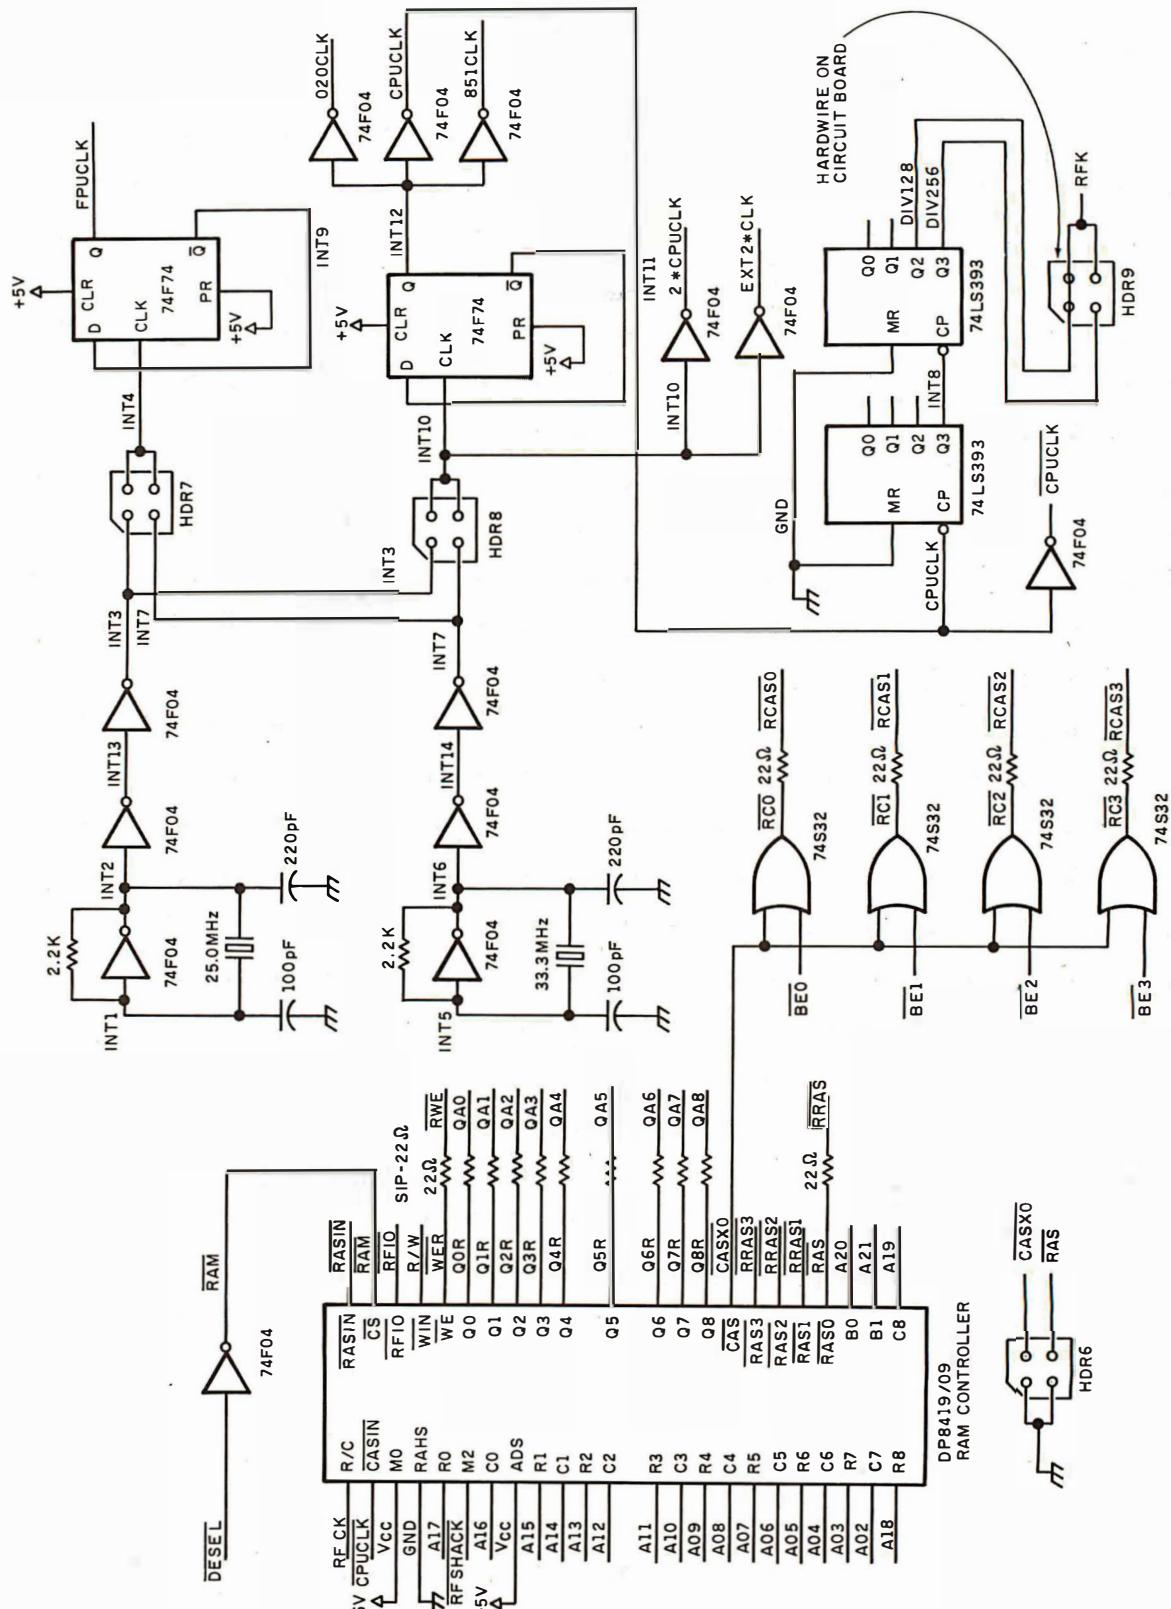
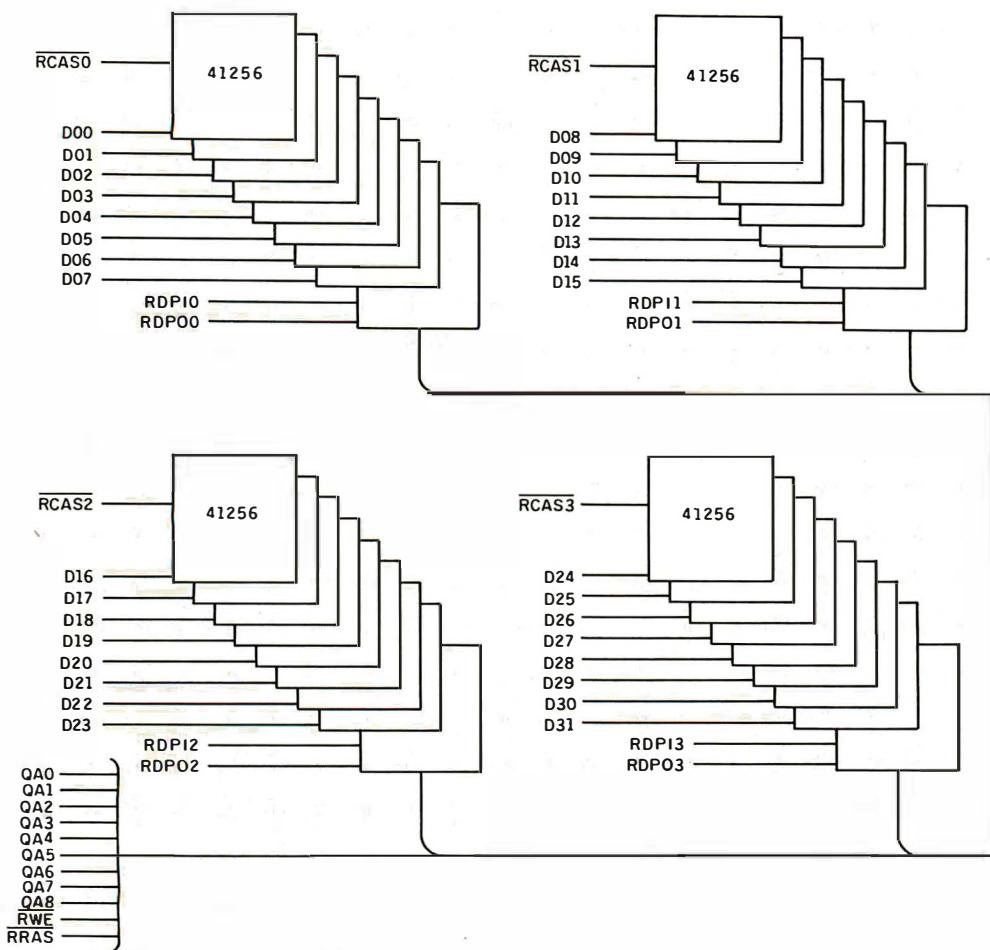

Figure 5: RAM controller circuitry.
Figure 6: Memory array.
A delay line and associated headers delay the CPU's address strobe (AS) signal long enough for all the decoding to have been completed before the RASIN signal is generated to initiate the DP8409 dynamic RAM controller's access cycle. The DP8409 (figure 5) directly drives the multiplexed address and RAS lines of the RAMs. The CAS signal is multiplexed with the Byte Enable signals before being applied to the RAM array, shown in figure 6. The refresh counter is driven from the CPU's clock oscillator, divided by 128. The DP8409 attempts to do a hidden refresh, but if this is not possible, a refresh request (RFIO) will be sent to the HOLD20 PAL every 10.24 microseconds. When this is acknowledged (with RFSHACK) the DP8409 will perform a RAS ONLY refresh cycle.